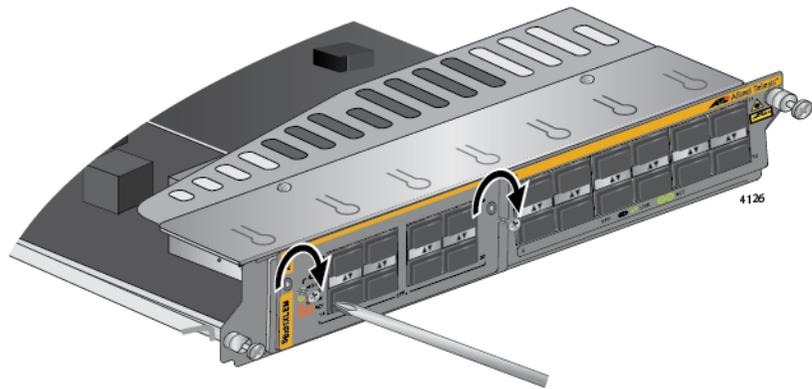

Figure 80. Securing the Expansion Module
10. With a Phillips-head screwdriver, install the two screws from step 4 to secure the expansion module to the line card. Refer to Figure 80.